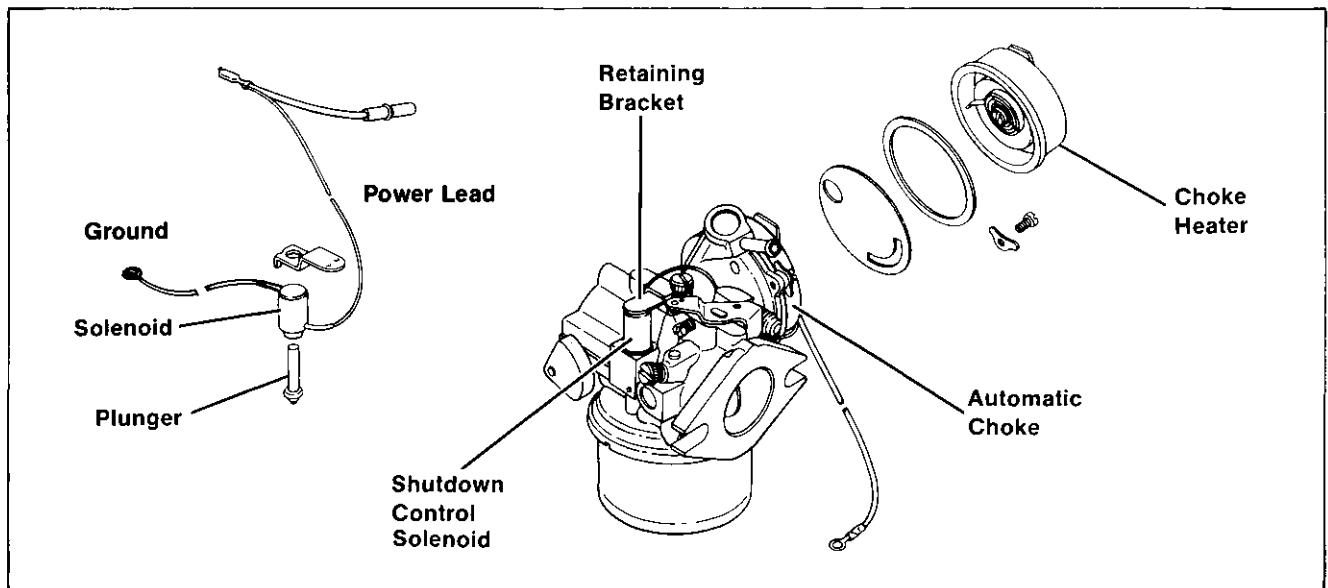

Figure 4-11. Engine Shutdown Control And Automatic Choke
The engine shutdown control device is a solenoid and plunger mounted on the carburetor which prevents the engine from “running on” after the ignition is turned off. See Figure 4-11. When the switch is in the start position, battery current thru the solenoid holds the plunger and continues to hold it while the engine is running. When the switch is moved to the stop position the solenoid de-energizes and drops the plunger into a porting in the carburetor to stop all flow of fuel.
**Refer to Figure 4-11 for identification of parts.**